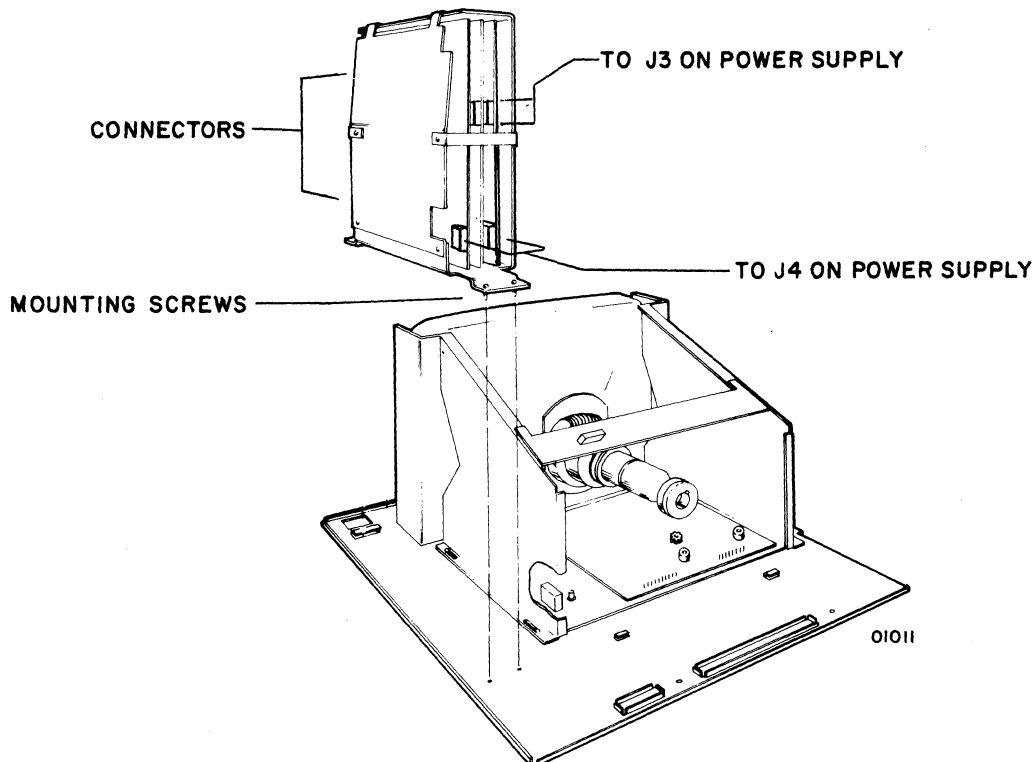

Figure 6-18. Logic Module Mounting
- 4) Disconnect all external cables from logic module (see figure 6-18). Do not disconnect inter-board cable connectors.
- 5) Remove two mounting screws, located at rear of logic module, from mounting tabs (see figure 6-18).